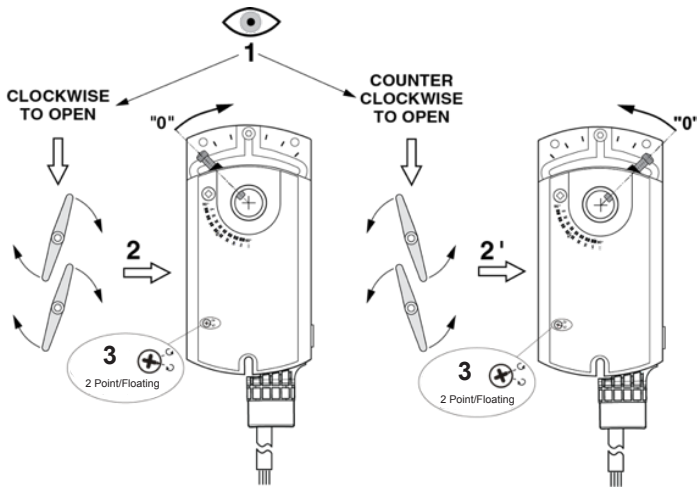
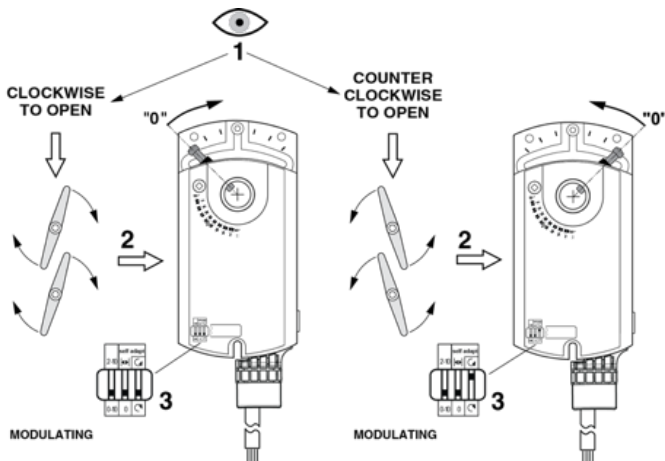

Figure 12. Setting the Direction of Rotation, 2-Position/Floating.
Figure 13. Setting the Direction of Rotation, Modulating Actuator.
1. Determine whether the damper blades will rotate clockwise or counterclockwise to open. See Figure 12 and Figure 13.